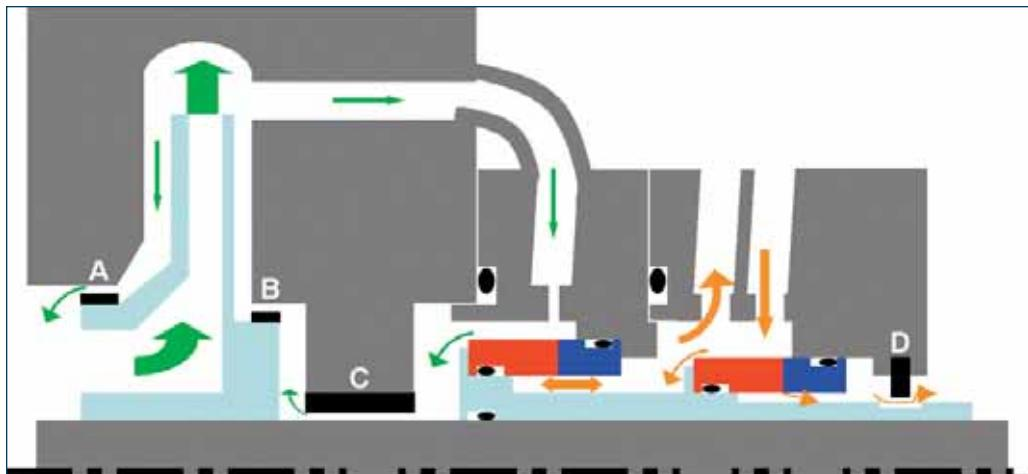

Figure 1. Typical pump and mechanical seal arrangement
The typical single stage pump and mechanical seal arrangement in Figure 1 shows the pump wear parts, impeller (A) and hub (B). The flow arrows indicate the direction of the media flow with pumped and flush (green) and barrier (orange) fluids in the system. The "joint" in the system is the throttle bushing (C) between the impeller and the mechanical seal chamber.
- Throttle bushings located on the outboard of the mechanical seal to reduce the low leakages from the mechanical seal even further (see D in Figure 1)